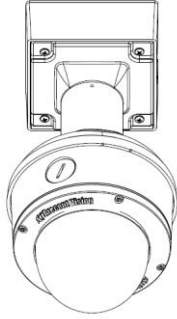

Figure 6
9. Attach the Dome Cover to the MegaDome® UltraHD camera and fasten securely four captive screws as shown in Figure 6.